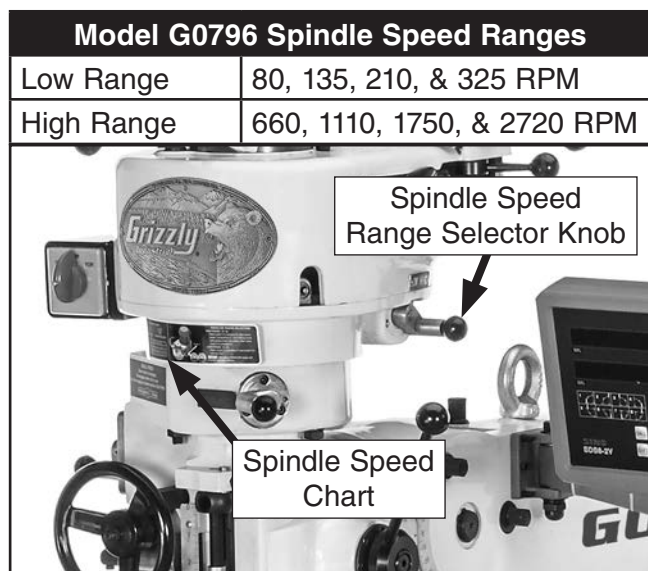

Figure 38. Model G0796 available spindle speeds, location of spindle speed chart, and range selector knob in the HIGH position.
2. Use chart below or spindle speed chart on headstock to find appropriate spindle speed for your operation (see **Figure 38**).
3. Pull spindle speed range selector knob (see **Figure 38**) out, position in HIGH or LOW range, then release knob to seat knob pin in detent.